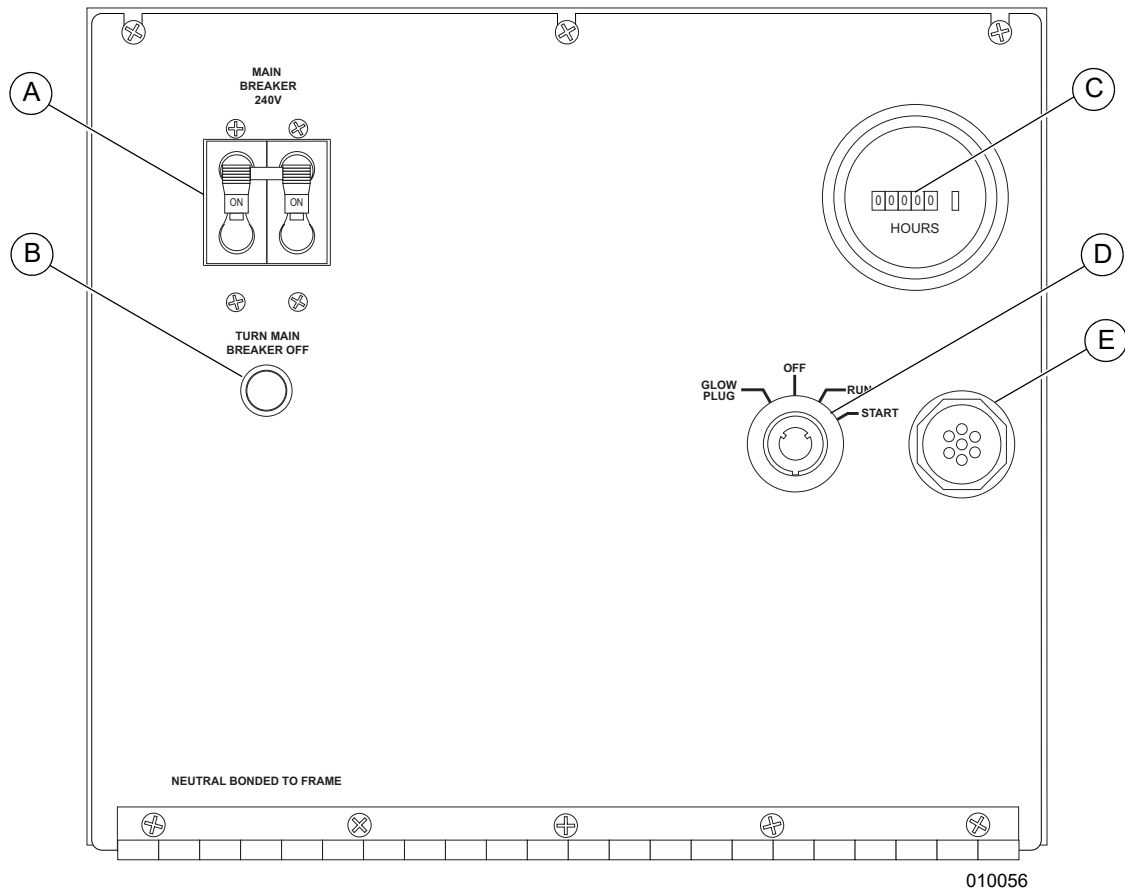

Figure 2-4. Components—Control Panel
1. Verify the main circuit breaker and individual circuit breakers for each of the receptacles are OFF (O).
NOTE: When the circuit breaker indicator light (Figure 2-4) is illuminated, the main circuit breaker must be turned to OFF (O).